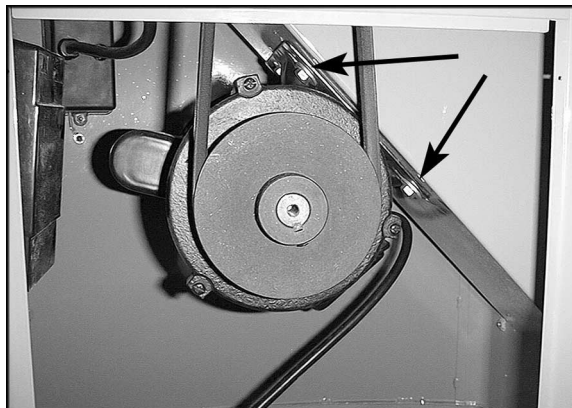

Figure 6
2. Reach through the dust chute opening in the side of the stand with a 12mm wrench, and loosen the nuts on the motor mount screws (Figure 6).